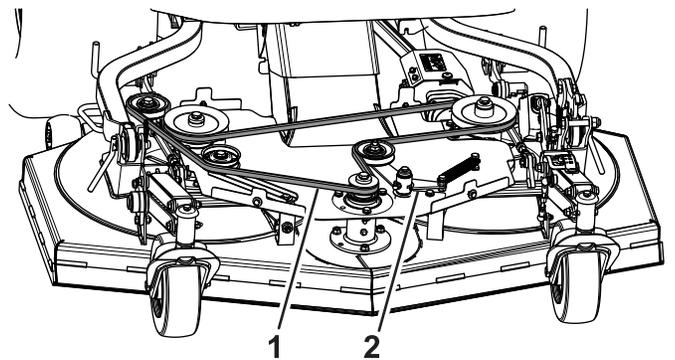

Figure 107
4. Remove the idler arm spring from the cutting unit post (Figure 107).
1. Route the new belt around the pulleys as shown in Figure 107.
2. Install the idler arm spring onto the cutting unit post (Figure 107).